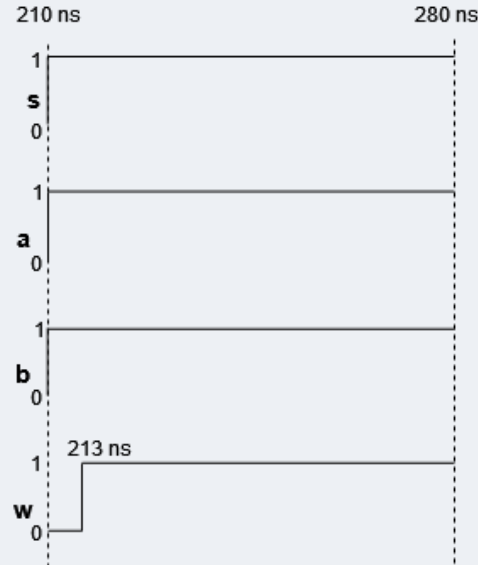

Figure 2.5
- **210 to 280 ns:** As “b” changes to 1, there will be a 3 ns gap till T4 propagates 1 to the output. (fig. 2.5)